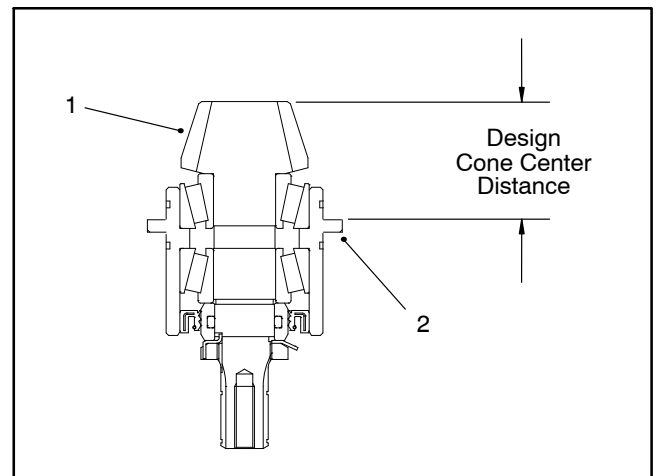

Figure 35
8. Use a depth gauge to measure the distance from the end face of the input shaft/pinion gear to the mating surface of the bearing case. Subtract the "Design Cone Center Distance" from this distance to determine initial shim thickness (Fig. 35).